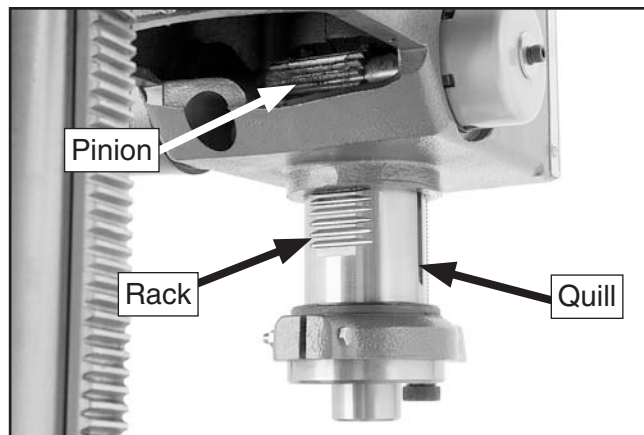

Figure 63. Rack, pinion and quill.
3. Use mineral spirits, a toothbrush or wire brush, and rags, and thoroughly clean the rack and pinion (**Figure 63**).
2. Lower the quill (**Figure 63**) and use a rag and mineral spirits to clean the quill.